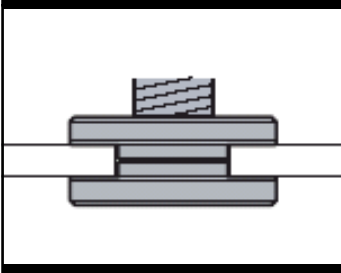
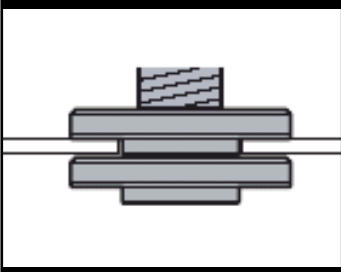

Fig. 5-1
Fig. 5-2
The outer flange (7) should be adjusted to suit different disc thickness. For thinner cutting discs the raised part of the outer flange is fitted facing away from the disc (See Fig.5-2). For thicker grinding discs the raised part of the outer flange is fitted facing towards the disc to provide improved support for the disc hole (See Fig.5-1). Always ensure your disc is securely clamped.